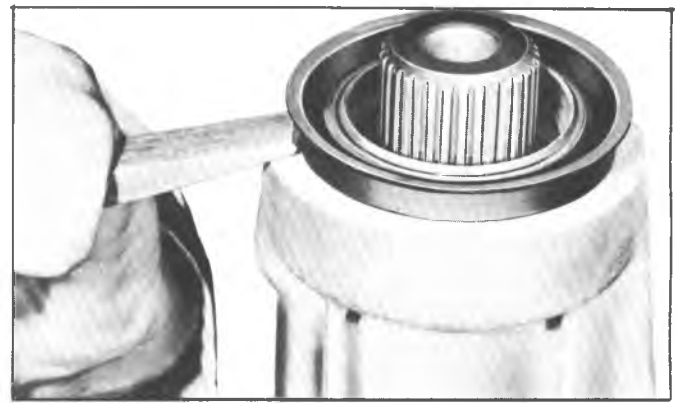

Fig. 23T--Removing Rear Oil Seal from Case Extension
1. If necessary to replace, pry rear oil seal from case extension (fig. 23T).